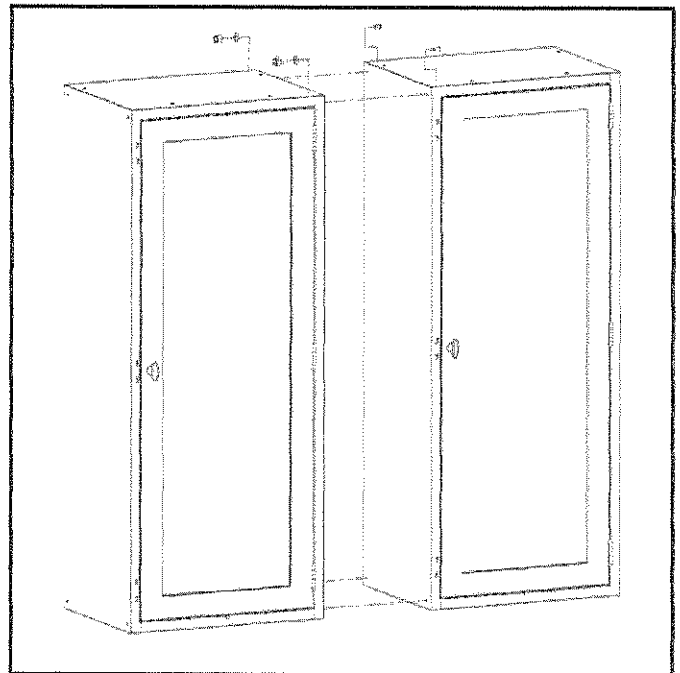

Figure 10
3. Secure cabinets together by drilling four holes on each side and then attaching the cabinets together side-by-side with appropriate fasteners, not included (see Figure 10).